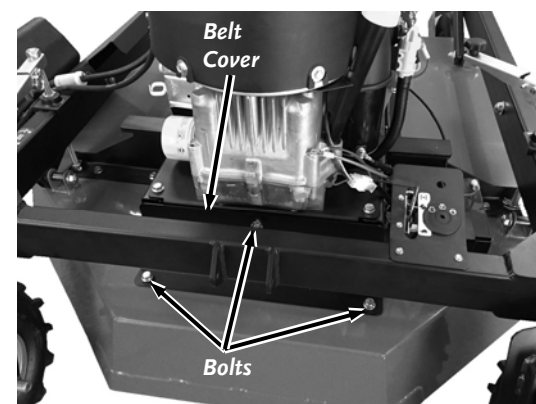

Figure 35
6. At the back of the machine, use a 9/16" Wrench to remove the three Bolts securing the Belt Cover and set the Belt Cover aside (**Figure 35**).